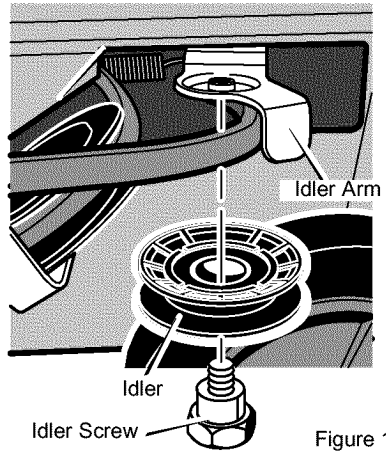

Figure 19
5. Remove the **idler screw** and **idler pulley** from the **idler arm** (See Figure 19).